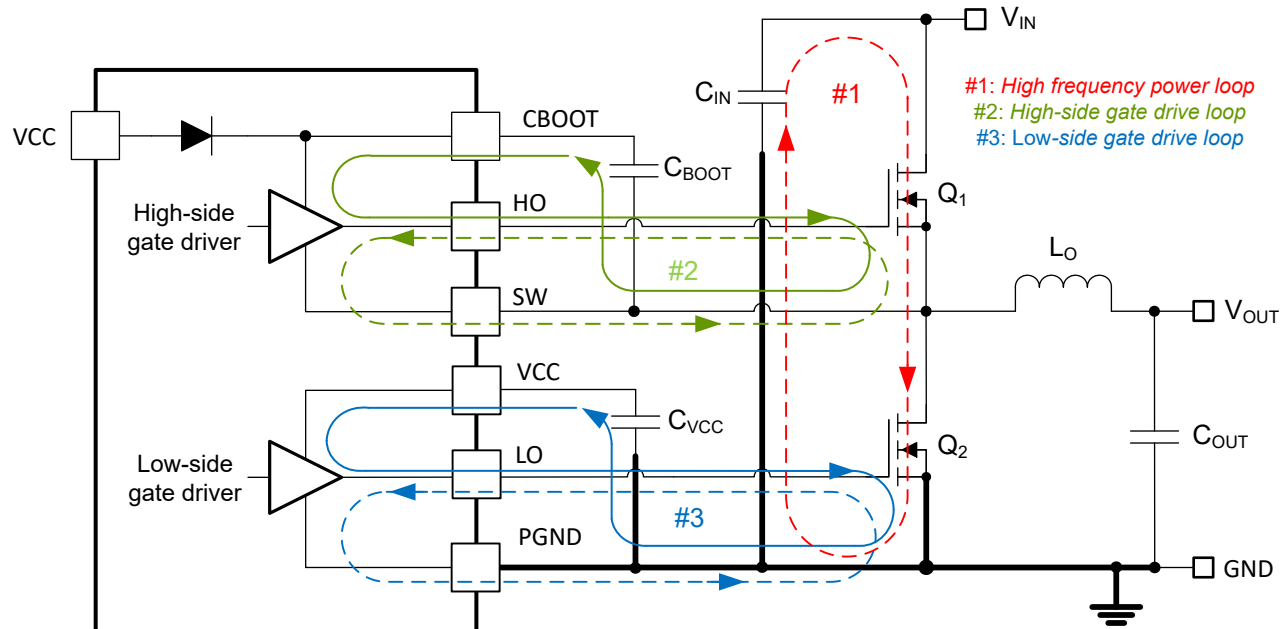

Figure 9-47. DC/DC Regulator Ground System With Power Stage and Gate Drive Circuit Switching Loops
Proper PCB design and layout is important in a high-current, fast-switching circuit (with high current and voltage slew rates) to achieve a robust and reliable design. As expected, certain issues must be considered before designing a PCB layout using the LM5149-Q1. The high-frequency power loop of a buck regulator power stage is denoted by loop 1 in the shaded area of Figure 9-47. The topological architecture of a buck regulator means that particularly high di/dt current flows in the components of loop 1, and it becomes mandatory to reduce the parasitic inductance of this loop by minimizing its effective loop area. Also important are the gate drive loops of the high-side and low-side MOSFETs, denoted by 2 and 3, respectively, in Figure 9-47.
- Loop 1: The most important loop area to minimize is the path from the input capacitor or capacitors through the high- and low-side MOSFETs, and back to the capacitor or capacitors through the ground connection. Connect the input capacitor or capacitors negative terminal close to the source of the low-side MOSFET (at ground). Similarly, connect the input capacitor or capacitors positive terminal close to the drain of the high-side MOSFET (at VIN). Refer to loop 1 of Figure 9-47.
5. The SW pin connects to the switch node of the power conversion stage and acts as the return path for the high-side gate driver. The parasitic inductance inherent to loop 1 in Figure 9-47 and the output capacitance (C_{OSS}) of both power MOSFETs form a resonant circuit that induces high frequency (greater than 50 MHz) ringing at the SW node. The voltage peak of this ringing, if not controlled, can be significantly higher than the input voltage. Make sure that the peak ringing amplitude does not exceed the absolute maximum rating limit for the SW pin. In many cases, a series resistor and capacitor snubber network connected from the SW node to GND damps the ringing and decreases the peak amplitude. Provide provisions for snubber network components in the PCB layout. If testing reveals that the ringing amplitude at the SW pin is excessive, then include snubber components as needed.
- Loop 2: high-side MOSFET, Q_1 . During the high-side MOSFET turn-on, high current flows from the bootstrap (boot) capacitor through the gate driver and high-side MOSFET, and back to the negative terminal of the boot capacitor through the SW connection. Conversely, to turn off the high-side MOSFET, high current flows from the gate of the high-side MOSFET through the gate driver and SW, and back to the source of the high-side MOSFET through the SW trace. Refer to loop 2 of Figure 9-47.
- Loop 3: low-side MOSFET, Q_2 . During the low-side MOSFET turn-on, high current flows from the VCC decoupling capacitor through the gate driver and low-side MOSFET, and back to the negative terminal of the capacitor through ground. Conversely, to turn off the low-side MOSFET, high current flows from the gate of the low-side MOSFET through the gate driver and GND, and back to the source of the low-side MOSFET through ground. Refer to loop 3 of Figure 9-47.